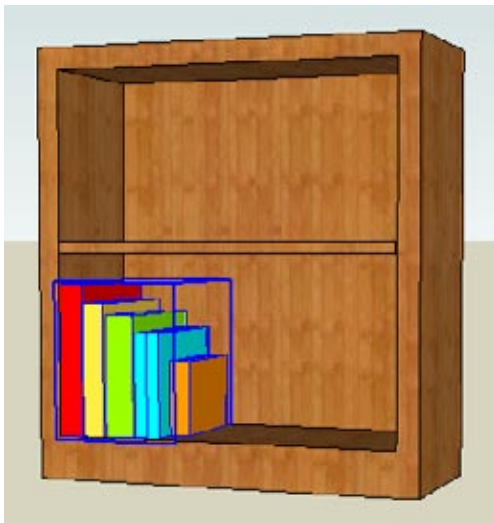

Figure 6-19
3. Move one of the vertical stacks to the front-left corner of the bottom shelf (Figure 6-19).